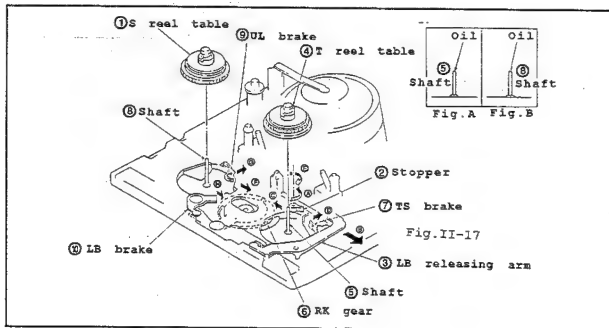

Fig.II-17
• Disassembling (Fig.II-17)
- (1) In the same procedures in "3-4", dismount the S and T brake.
- (2) In the same procedures in "3-5", detach the TL plate.
- (3) In the same procedures in "3-11", take off the tension regulator band.
- (4) Dismount the S reel table ①.
- (5) Turn the stopper ② in the direction of ④ by 90° approximately.
- (6) While shifting the LB releasing arm ③ in the direction of ⑤, dismount the T reel table.
• Reassembling (Fig.II-17)
- (1) Apply the 1/2 drop of oil to the shaft ⑤. (Fig.A)
- (2) Rotate RK gear ⑥ to the direction of ④.